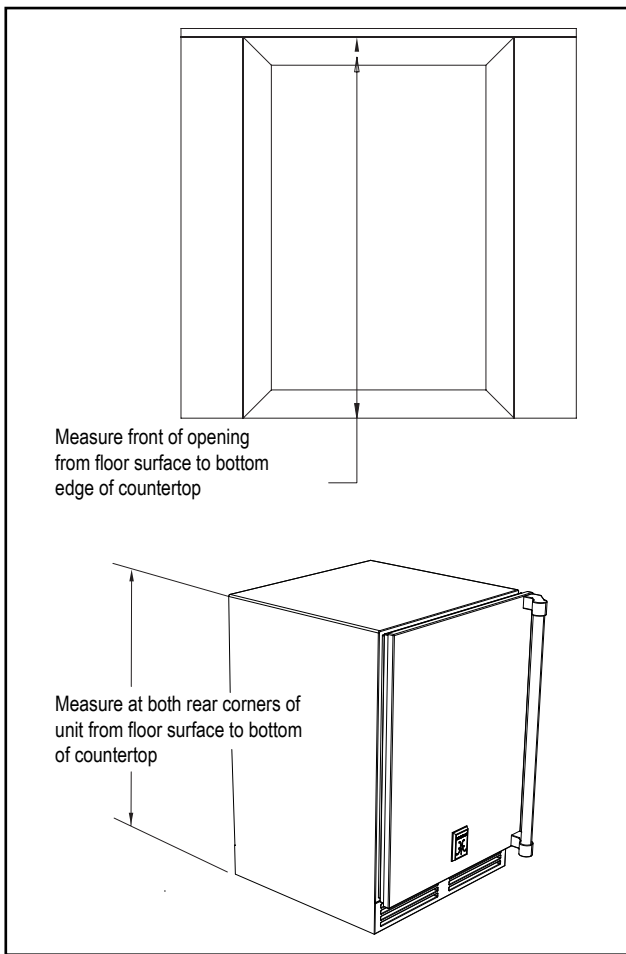

Figure 2. Leveling the Unit
2). With all surfaces in the installation opening square and level, refer to Figure 2 on page 7 and perform the following steps to level the unit: